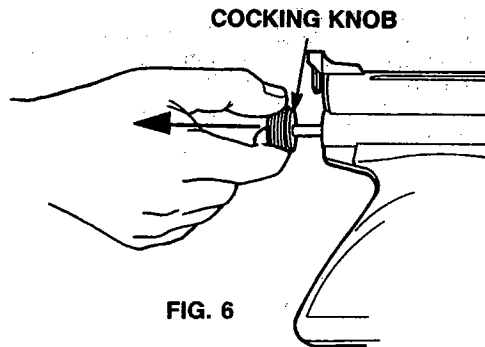

FIG. 6
- B. The SSP-250 has two power settings - high and economy. Pull the cocking knob back until you hear two clicks for economy power setting and three clicks for high power. (Fig. 6)